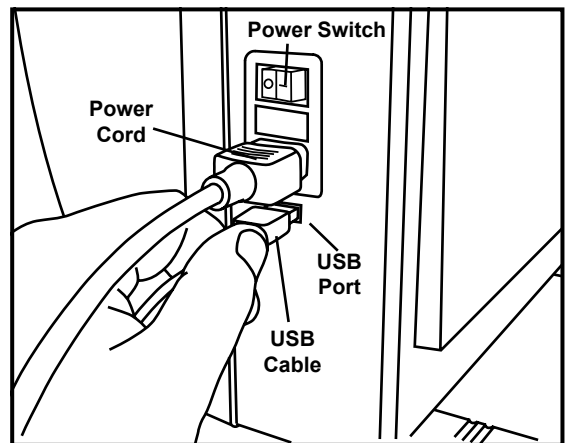

Figure 5
4. Place the power switch on the side of unit in the OFF position (fig. 5).
6. Plug the power cord into the connector located below the power switch (fig. 5). Attach the other end to a properly grounded outlet.
7. Plug the USB cable into the USB port on the Skin Scanner (fig. 5). Attach the other end to the USB port on your computer.
8. Press the power switch to turn the Skin Scanner on (fig. 5). The internal cooling fan will start and the long-wave ultraviolet lights will illuminate.